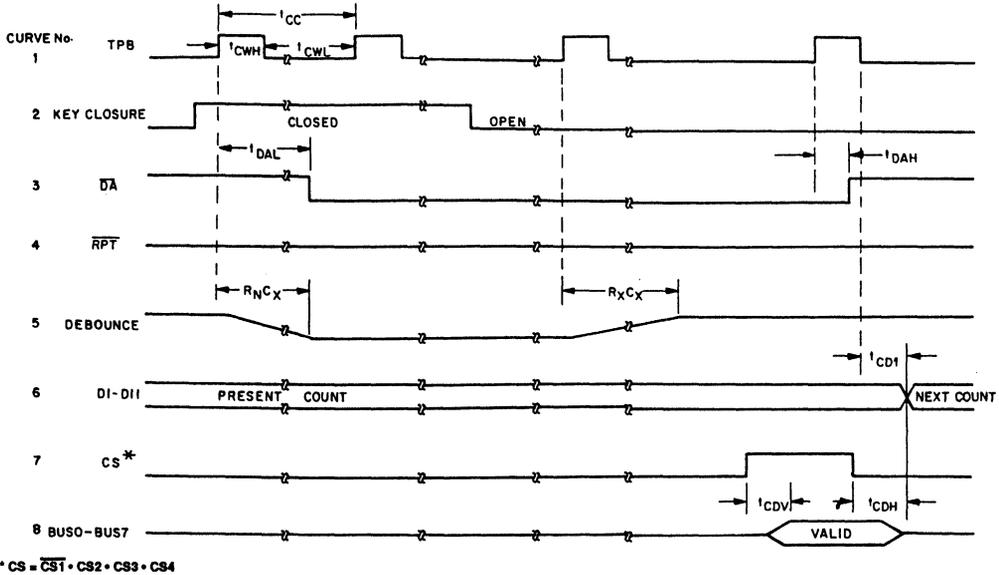

FIGURE 5. CDP1871A DYNAMIC TIMING DIAGRAM (NON-REPEAT)
The dynamic electrical characteristics of the CDP1871A are shown in Table 1, and the timing diagrams in Figure 5. The clock cycle time, the first entry, A, Table 1, and curve 1 in the timing diagram of Figure 5, TPB, define the high and low limits of the clock cycle as $t_{CC} + t_{CWH} + t_{CWL}$. TPB must remain high for at least 100 nanoseconds (B). The low portion of the clock cycle (t_{CWL}) consists of t_{CD1} (E) and the keyboard capacitance. This parameter is selected to allow the TPB clock pulse time to ripple through the scan counters. The maximum frequency of TPB is 400kHz at 5 volts V_{DD} and 800kHz at 10 volts V_{DD} .
Note in Figure 5 that the action starts when a key closure is sensed by the encoder; curve 2. On the next low-to-high transition of TPB, the debounce time of $R_N C_X$ occurs as C_X discharges through the transistor and the Schmitt trigger clocks the data available flip-flop; curve 3. The R_N value of the transistor is about 200 ohms, so that, with an external capacitor of 0.1 micro farads, a 20 microsecond delay can be expected. The key release trailing edge debounce time is calculated from the values of the external capacitor and resistor (R_X, C_X). With a 0.1 microfarad capacitor and a 100 kilohm resistor, the debounce time will be 10 milliseconds.